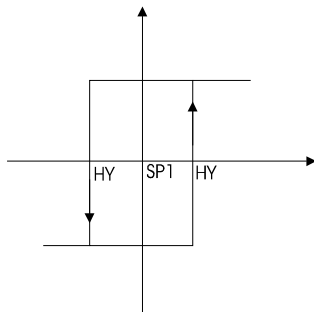

Fig. 3
In the case of windowed threshold “SP1” selects the first commutation (see fig.3)
- Simple triggering threshold see fig.3